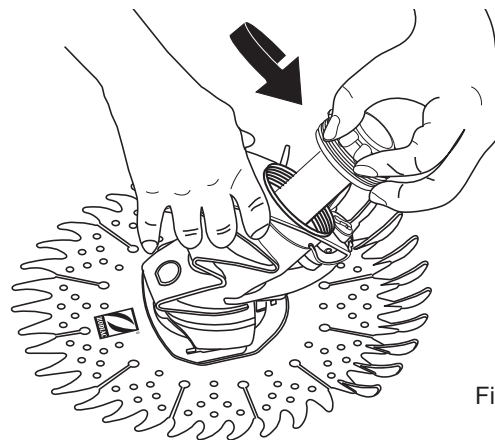
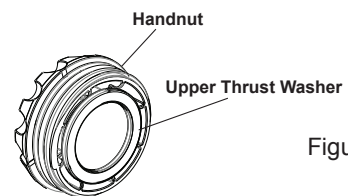

Figure 2
Figure 3
1. Unthread the handnut and slide it off the engine outer extension tube (see Figure 2), and set aside. The upper thrust washer is designed to stay inside the handnut and detach as a single unit. (See Figure 3.)